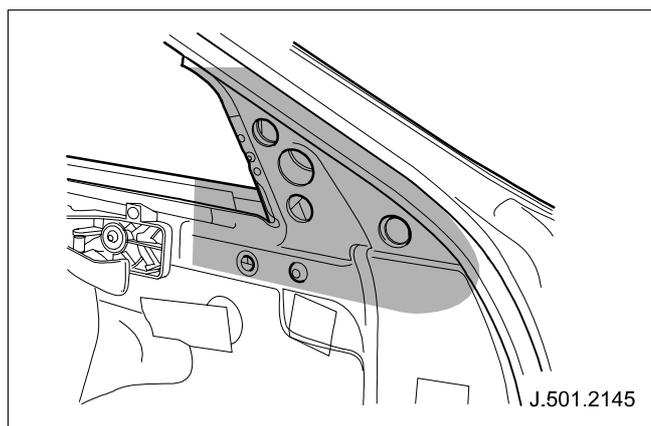

Fig. 8
- 8 Door cheater plate area. (See Fig. 8)